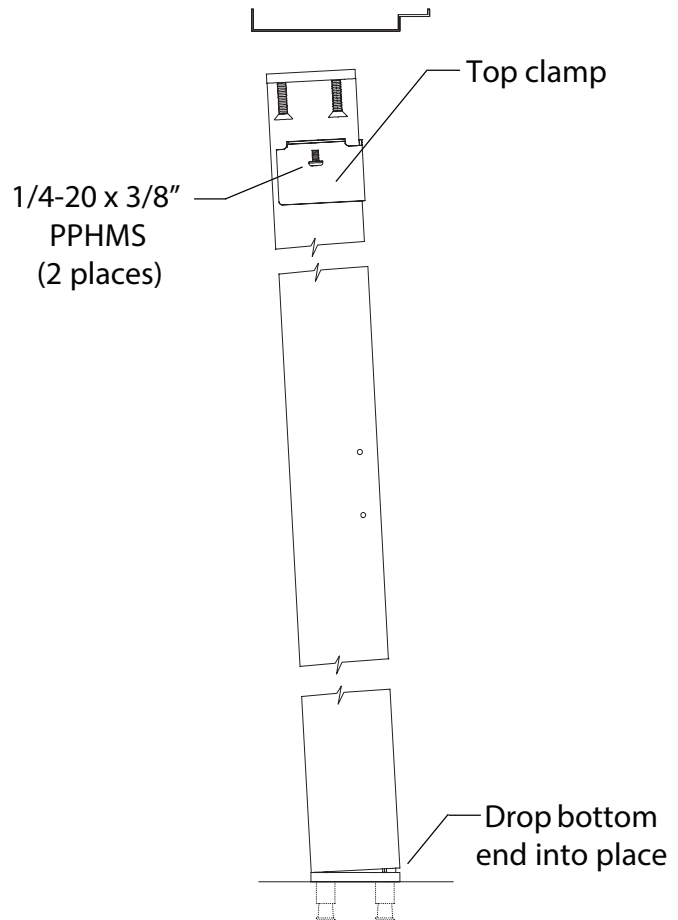

Figure 5
- Remove top mullion fitting and insert in top of mullion body. Slide mullion into place and replace mounting screws. Install top mullion clamp. See Figure 5.